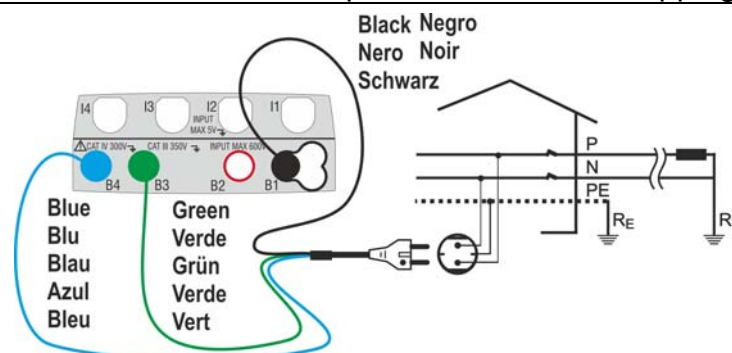
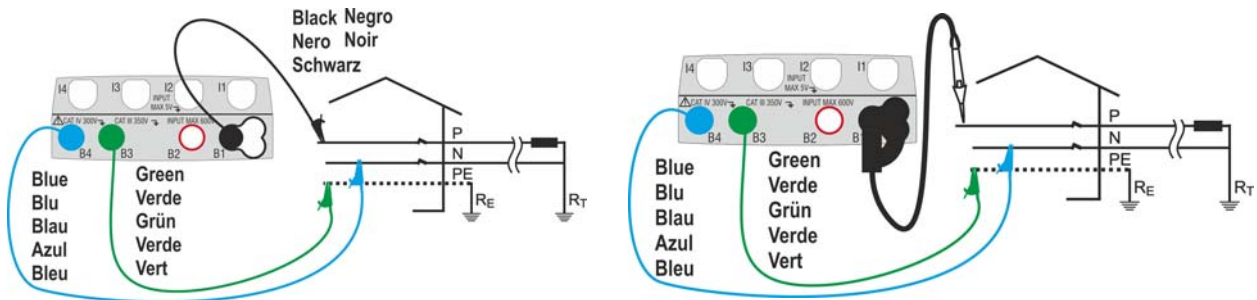
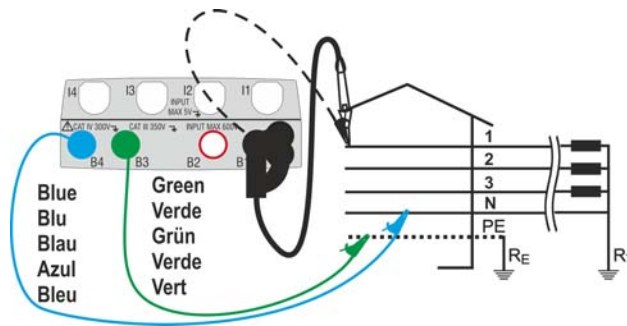
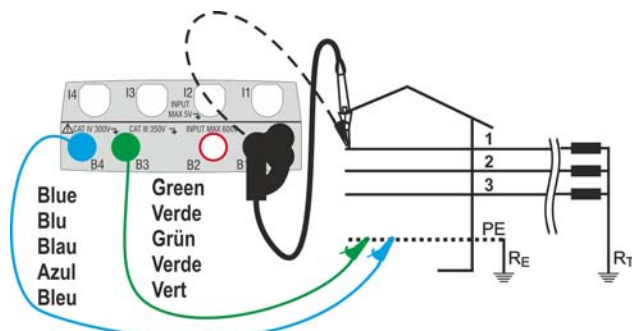

Fig. 17: P-N/P-PE measure for single-phase/two-phase 230V systems with shuko plug
Fig. 18: P-N/P-PE measure for single-phase/two-phase 230V with cables and remote lead
Fig. 19: P-N/P-PE test for 400V+N+PE by means of single cables and remote lead
Fig. 21: P-PE/P-N test for 400V + PE (no N) by means of single cables and remote lead
4. Connect the shuko plug, the alligator clips or the remote lead to the electrical mains according to Fig. 17, Fig. 18, Fig. 19 and Fig. 21.
4. If possible, disconnect all loads connected downstream of the measured point, as the impedance of these users could distort the test results. Connect the shuko plug, the alligator clips or the remote lead to the electrical mains according to Fig. 17, Fig. 18, Fig. 19 and Fig. 21 in the nearest possible point to the protection device